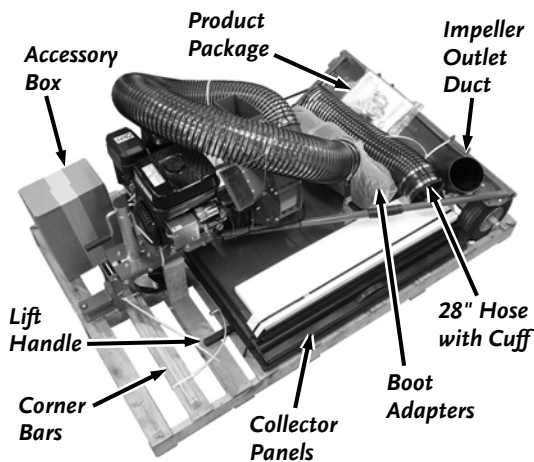

Figure 4
6. Cut the Wire Ties from the Corner Bars and the Impeller Outlet Duct and cut the Banding from the Collector Panels with the Wire Cutters (Figure 4).